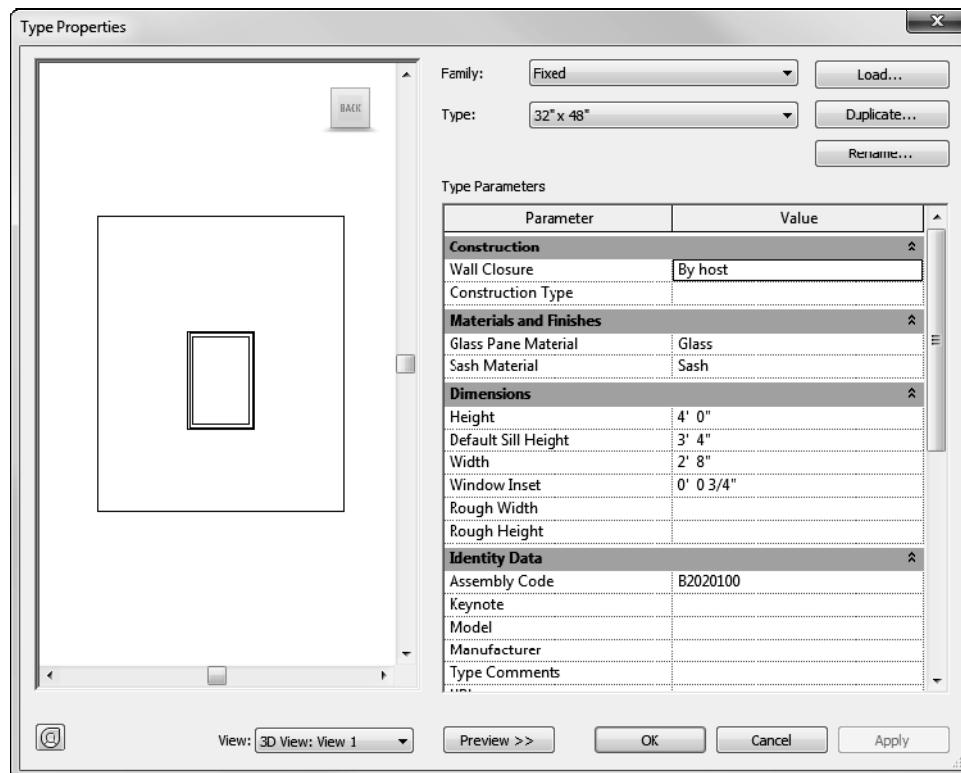

FIGURE 3-5.8 Added window size
15. Adjust the sill height for your new window size to fit within coursing as well. Set the sill height for **Fixed: 32" x 48"** to be **3'-4"** (Figure 3-5.8).